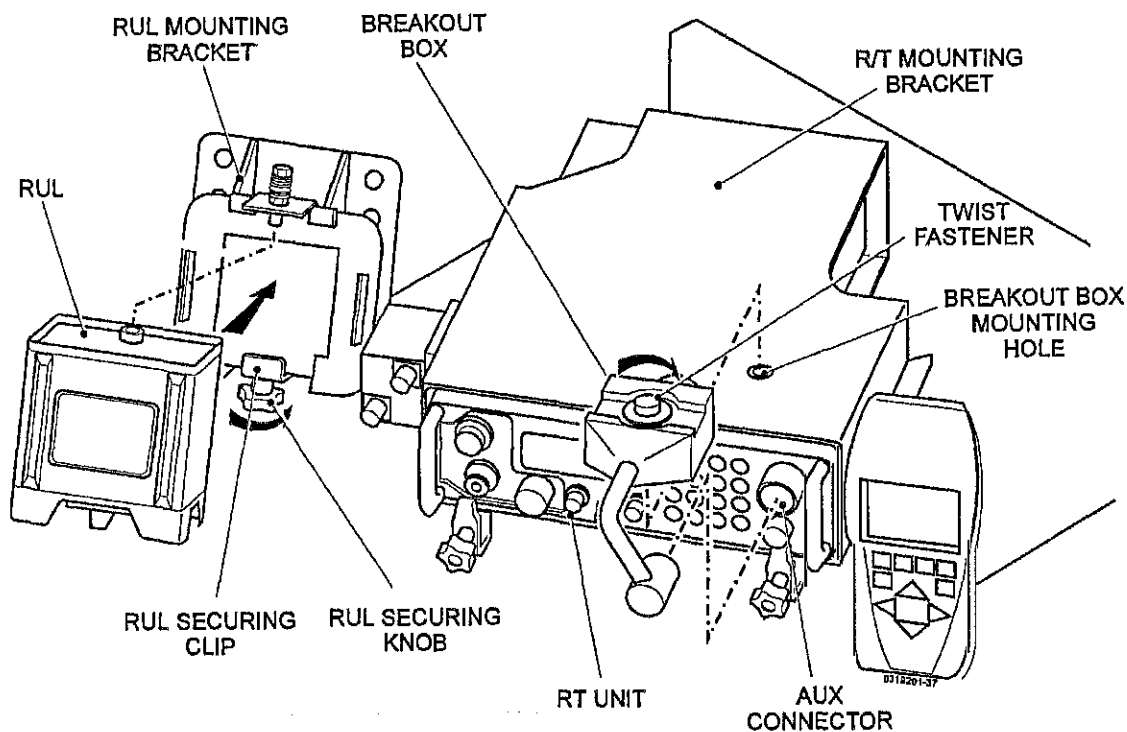

Fig 22 Breakout box and RUL installation - TUL/TUM mounted manpack station
86.1 Refer to Fig 22. Disconnect the SPGR interface cable from the R/T unit AUX connector. Connect the breakout box to the R/T unit AUX connector and secure to the vehicle bracket breakout box mounting hole using the breakout box twist fastener. Connect the SPGR interface cable to the breakout box aux through (37-way) fixed connector.
86.2 Refer to Fig 22. Loosen the vehicle RUL securing knob. Locate the RUL on the vehicle RUL mounting bracket and tighten the securing knob.